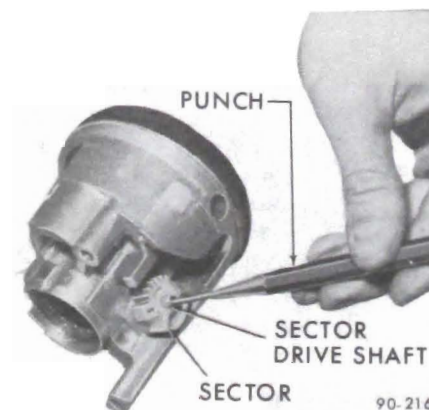

Figure 90-144 - Removing Sector Drive Shaft.
3. Remove snap ring from sector drive shaft. With small punch, lightly tap drive shaft from sector. Remove drive shaft, washer, sector and bolt. Remove rack and rack spring. See Figure 90-144.